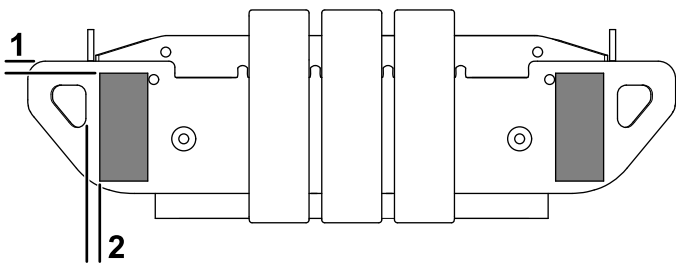
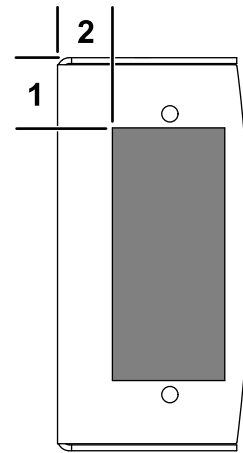

Figure 31
Figure 32
10. Apply 2 red reflective tape to the rear bumper and 1 reflective tape to each light housing using the dimensions shown in Figure 31 and Figure 32.